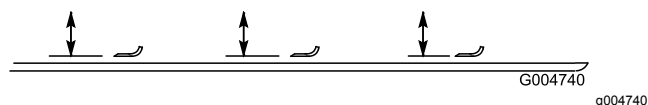

Figure 87
2. Rotate the blade until the ends face forward and backward and measure from the inside of the mower deck to the cutting edge at the front of the blade (Figure 87).